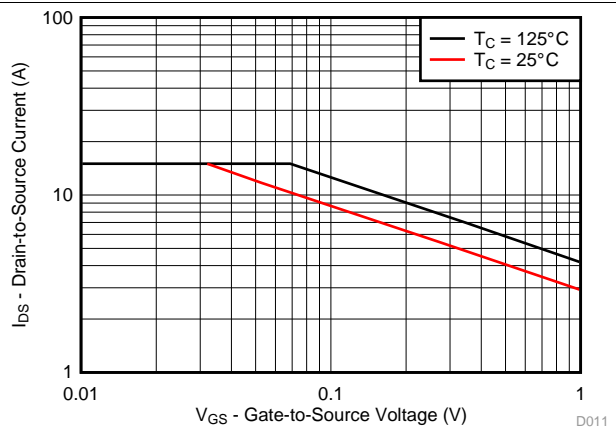

Figure 11. Single Pulse Unclamped Inductive Switching
• Added title to <a href="#">Figure 11</a> - Single Pulse Unclamped Inductive Switching.....	5